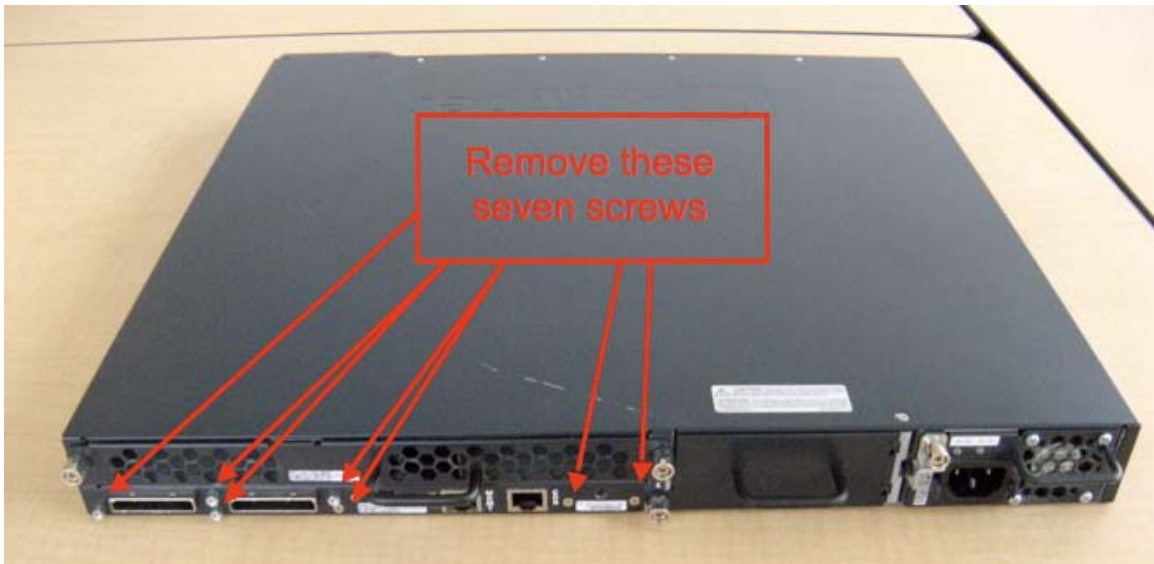

Figure 3-4: Rear screws
5. Remove seven screws from rear of chassis (figure 3-4)